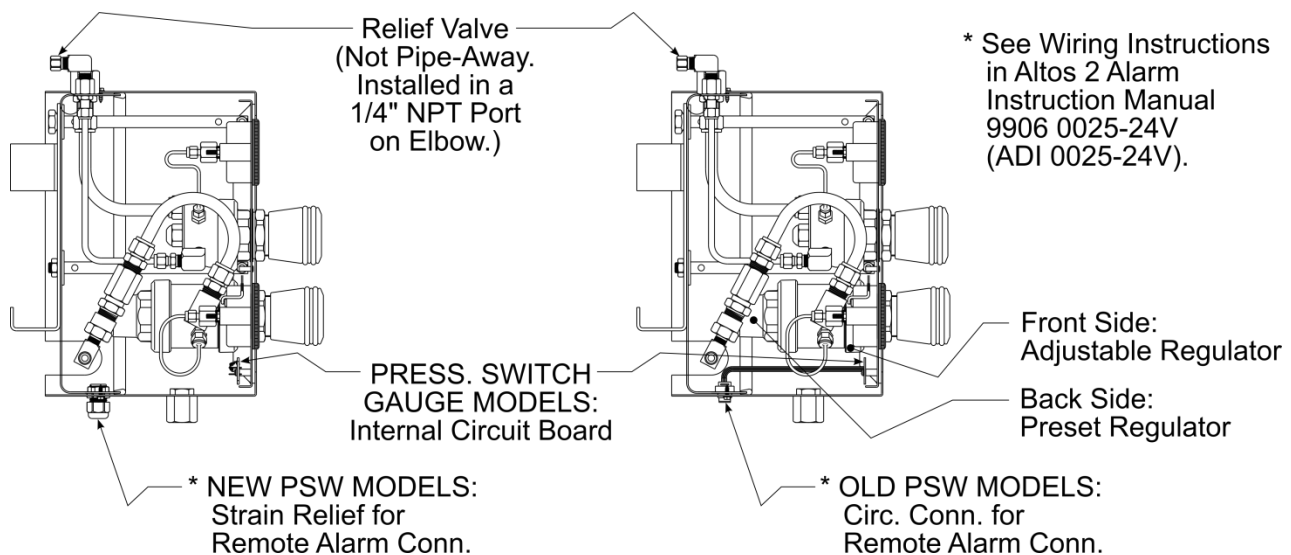

Figure 2
- d. Relief valve: The purpose of the relief valve is to protect the AutoSwitch system and its components only (Figure 2). If there is pressure sensitive equipment downstream of the AutoSwitch system, it is recommended that an appropriately sized relief valve be installed in the line to protect this equipment.